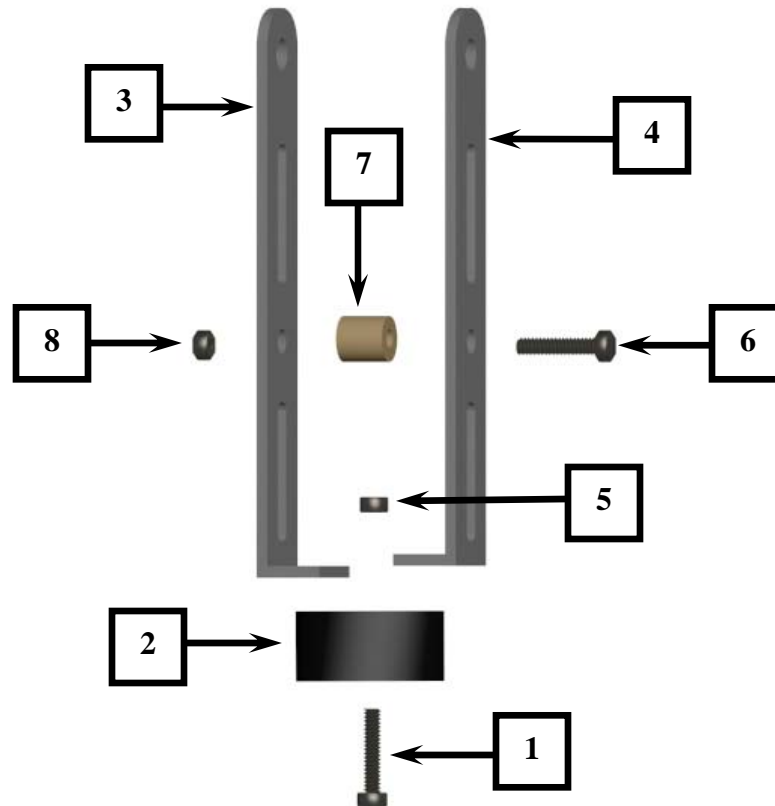

Figure 21 – Lower Leg assembly
11. Use figure 21 to assemble the lower leg assembly. Please note the orientation of the longer leg brace and the shorter brace. The shorter leg brace is always installed on top of the longer leg brace. To make construction easier, follow the numbered steps as outlined in figure 21.